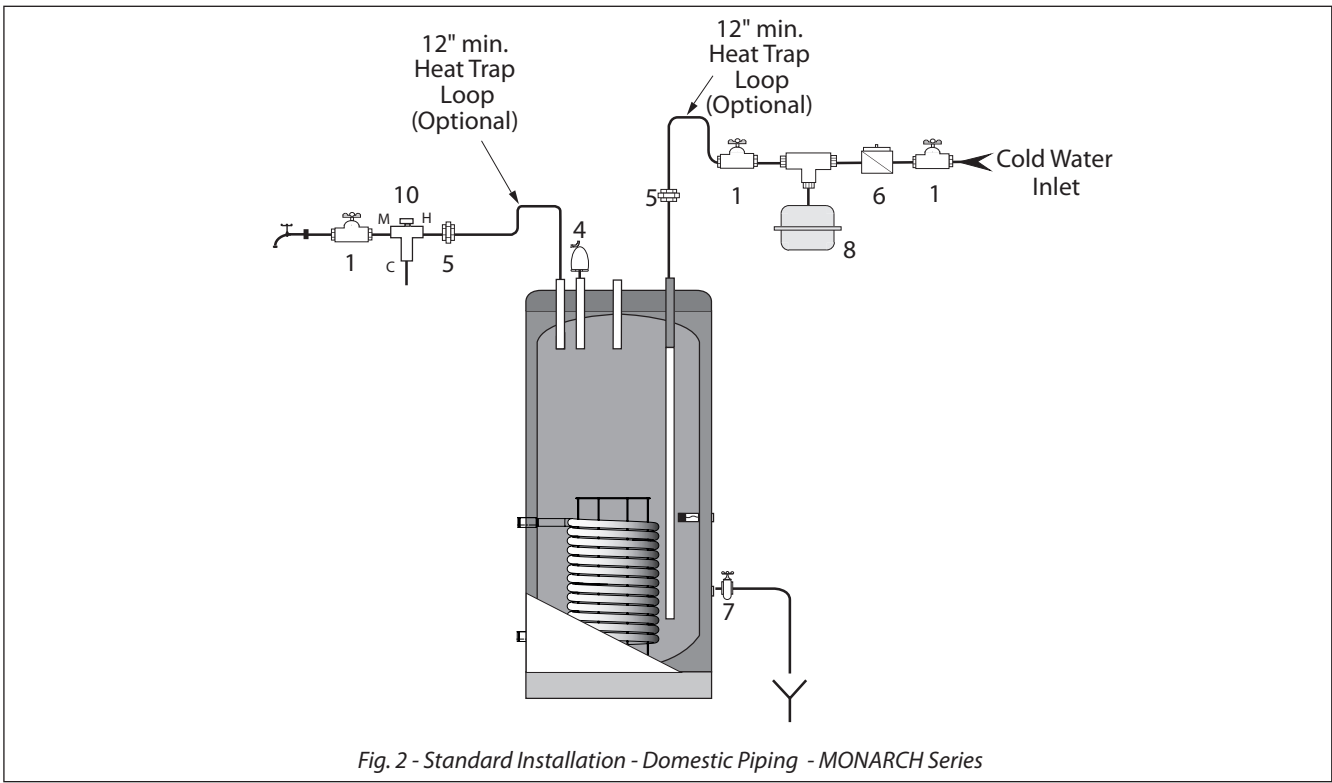

Fig. 2 - Standard Installation - Domestic Piping - MONARCH Series
- Install T&P relief valve in the **Temperature and Pressure Relief Valve** connection on the top of the water heater (Refer to *Fig. 2 on page 9*).
- Install drain valve on drain connection (Refer to *Fig. 2 on page 9*).
- For domestic water piping diagram, refer to *Fig. 2 on page 9 and Fig. 3 on page 9*.